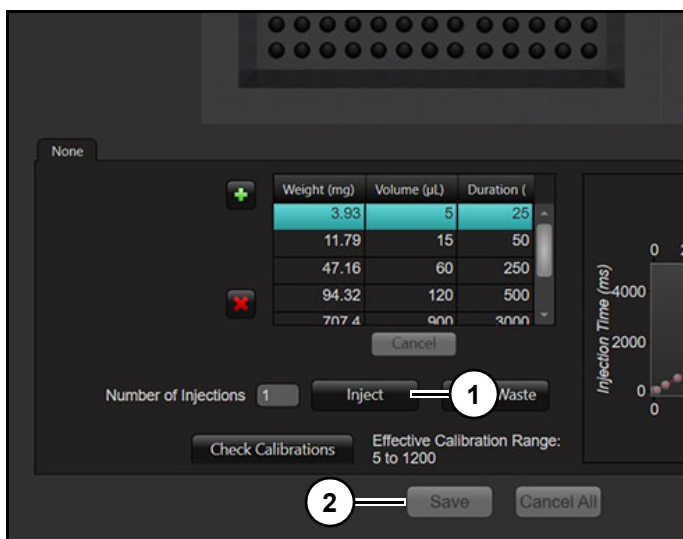

Figure 15
- Click "Inject" (1) (Figure 15). Instrument will open valve for 25 ms, injecting liquid into collection vile.
- Click "Save" (2) (Figure 15). To calibrate another point, highlight appropriate line with a mouse click.